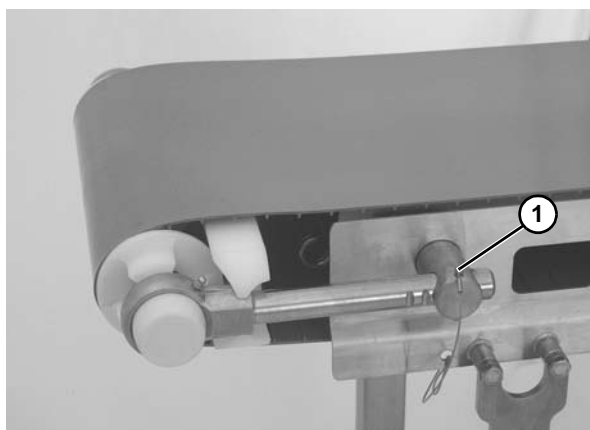

Figure 12
- Place the idler tail in the down position (Figure 12).